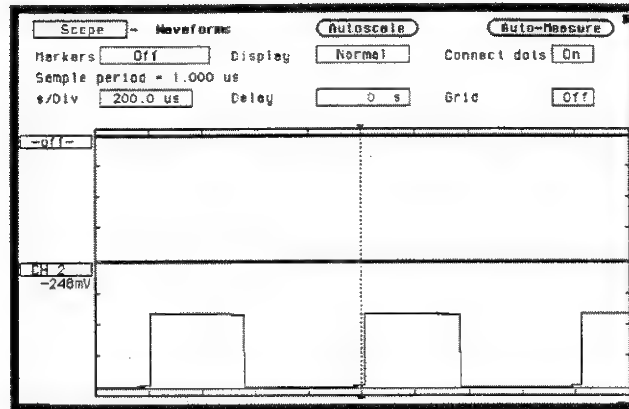

Figure 23-10. Channel 1 Turned Off
2. With Waveform on, the channel 1 signal will be displayed in the waveform display. Select **Waveform off**. Channel 1 signal is now gone, and the channel label has changed to **-off-**. See figure 23-10.